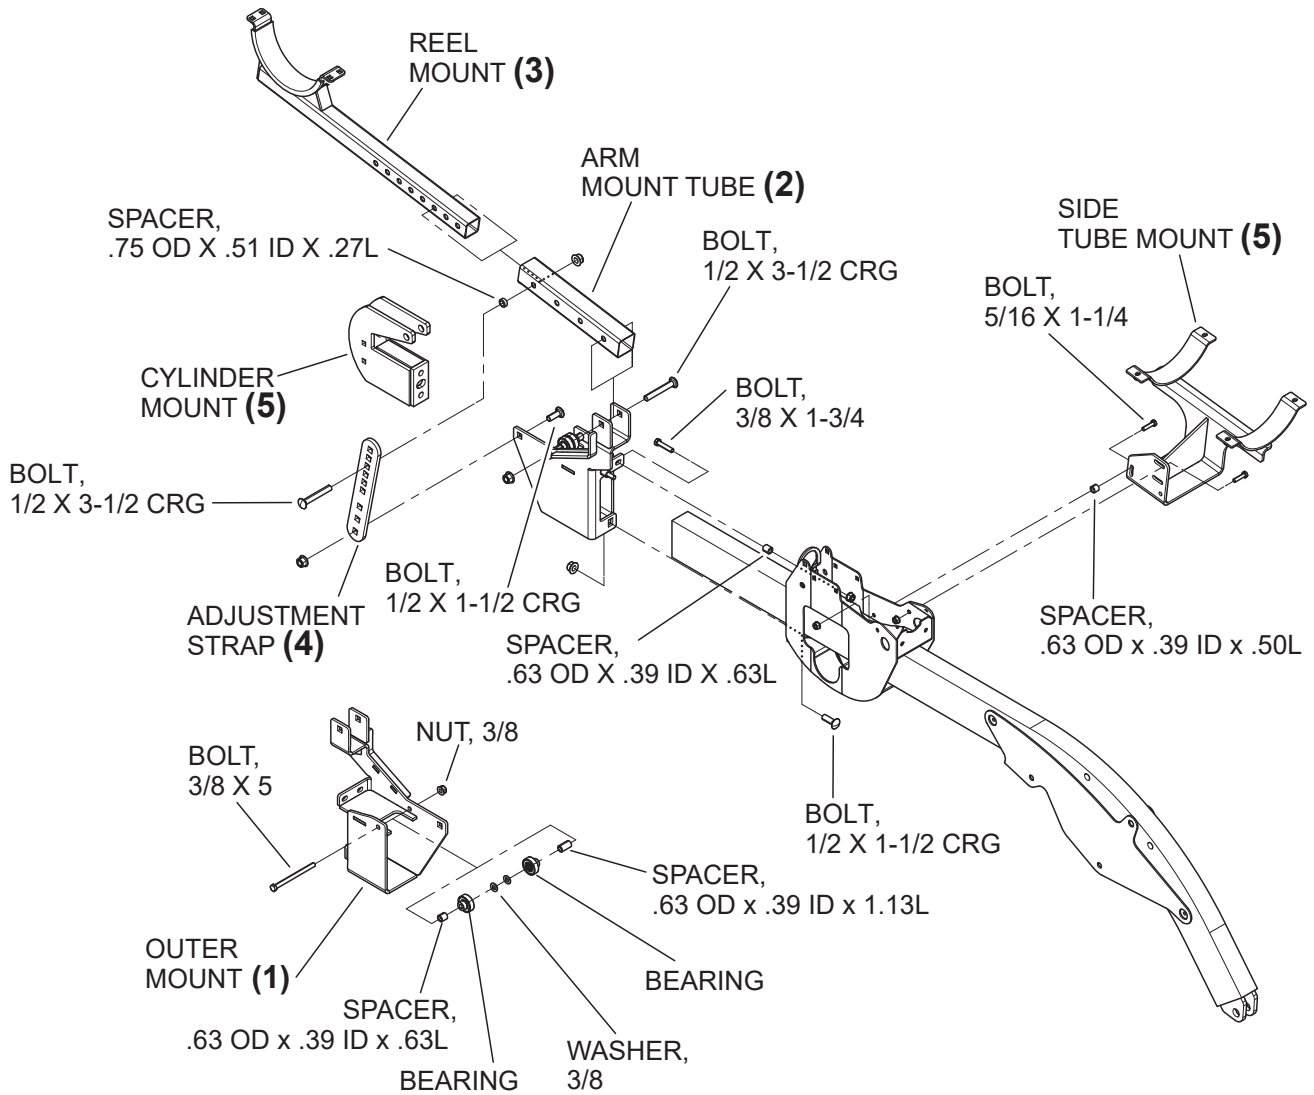

Figure 43: RH reel arm mount assembly (FD70 & CIH 2162 headers)
1. Assemble the bearings using the .63 OD x .39 ID x .63L and .63 OD x .39 ID x 1.13L spacers, washers, 3/8 x 5" bolt and nut to secure the bearings to the outer mount **(1)**. (Figure 43)
3. Set an outer mount **(1)** on the OEM RH reel arm. Slide it back against the OEM bracket shown in Figure 43.
4. Attach the outer mount **(1)** to the OEM bracket. To do so, replace two existing bolts with 3/8" x 1-3/4" bolts (Figure 43). Install a .63 OD x .39 ID x .63L spacer on each bolt between the outer mount and OEM bracket. Use one 1/2" x 1-1/2" carriage bolt and nut to bolt the bottom hole of the outer mount to the OEM bracket.
7. Attach the adjustment strap **(4)** to the arm mount tube **(2)** and reel mount **(3)** with a 1/2" x 3-1/2" bolt, nut and .75 OD x .51 ID x .27L spacer (Figure 43).
9. Position the side tube mount **(5)** as shown in Figure 41 & Figure 43 onto the OEM reel mount. Install a 5/16 x 1-1/4" bolt and nut in the upper left corner. Using the bracket as a template to mark and drill the front hole using a 11/32" drill bit.
10. Bolt the side tube mount **(5)** to the OEM reel mount using a .63 OD x .39 ID x .50L spacer between the bracket and the OEM mount using a 5/16 x 1-1/4" bolt and nut (Figure 43).